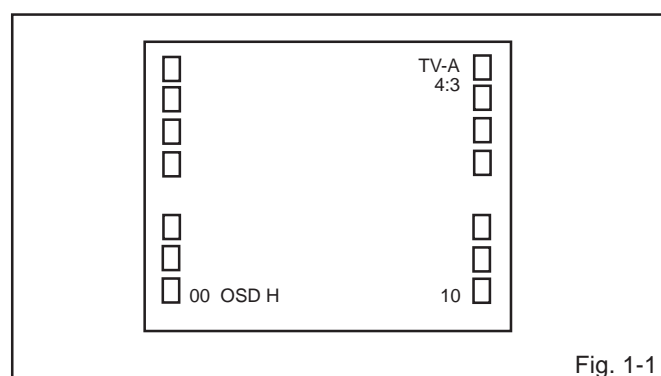

Fig. 1-1
Press the VOL. DOWN button on the set and the Channel button **(9)** on the remote control for more than 2 seconds to appear the adjustment mode on the screen as shown in **Fig. 1-1**.
4. Activate the adjustment mode display of **Fig. 1-1** and press the channel button **(02)** on the remote control to select "CUT OFF".
4. Activate the adjustment mode display of **Fig. 1-1** and press the channel button **(11)** on the remote control to select "R.BIAS".
4. Activate the adjustment mode display of **Fig. 1-1** and press the channel button **(17)** on the remote control to select "BRI CENT".
3. Activate the adjustment mode display of **Fig. 1-1** and press the channel button **(21)** on the remote control to select "CONT.MAX".